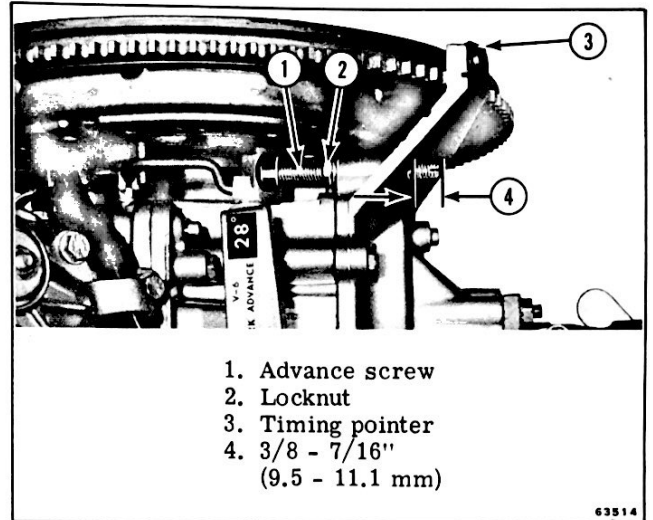

Figure 2-14. Spark Advance Stop Screw
a. Make initial adjustment of full advance stop screw. See Figure 2-14. This is just an initial starting dimension.